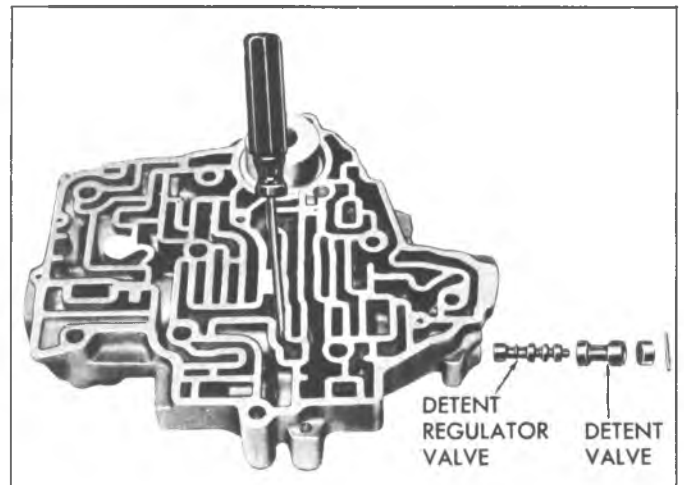

Fig. 9B—Installing Detent Regulator Valve and Detent Valve
4. In next bore up, install detent spring and spacer. Compress spring and secure with small screwdriver (fig. 9B).